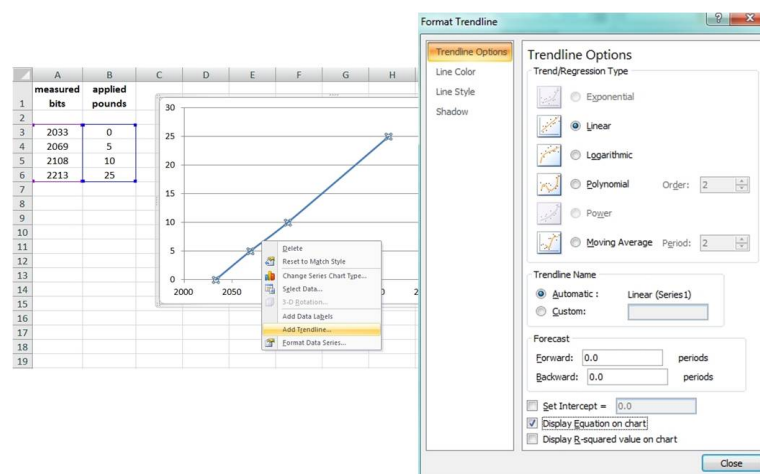

Figure 46 - Plot Trendline
- Designate the line as Linear, and check the option to Display the Equation on the chart (*Figure 46 - Plot Trendline*).